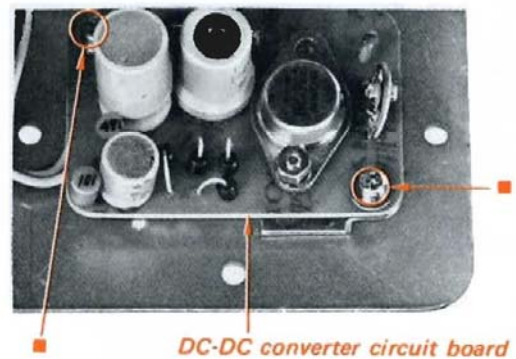

Fig. 8-13 DC-DC converter circuit board removal
- (3) Remove the DC-DC converter circuit board by unscrewing the two screws marked with ■ in Fig. 8-13.